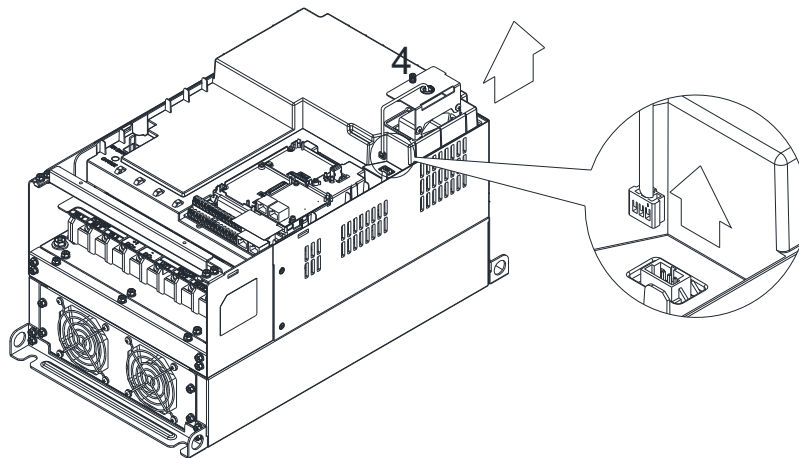

Figure 3
3. Loosen screw 4 (figure 3) and disconnect fan power and pull out the fan. (As shown in the enlarged picture 3) Screw 4 Torque: 10–12 kg-cm / [8.7–10.4 lb-in.] / [1.0–1.2 Nm]